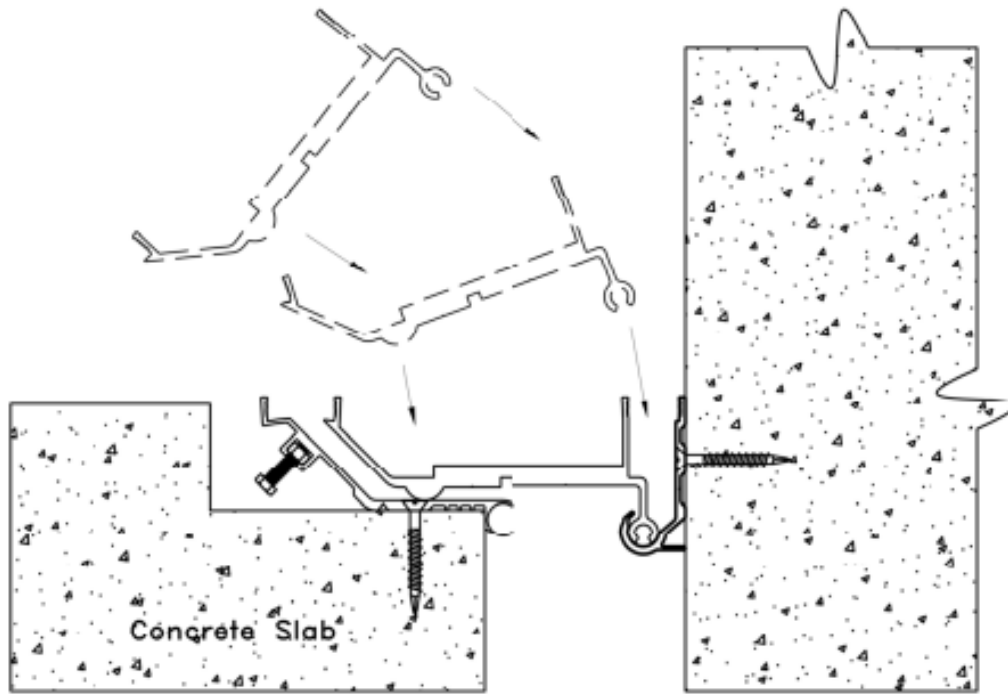

FIGURE 7
7. Gently set aluminum pans into place as shown above. See steps 8 & 9 for splicing procedure. **SEE FIGURE 7**